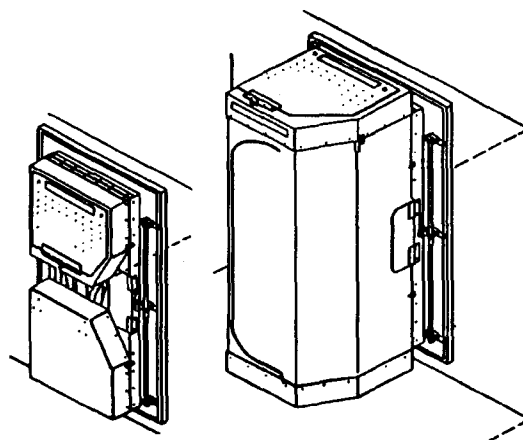

Figure 6-10. Internal integrated protective entrance.
**Internal integral protective entrance.** Deployed internally, the integral protective entrance can remain in its functional configuration and need not be stowed for transport. Since it is contained within the shelter, it is much less vulnerable on the battlefield (Figure 6-10).